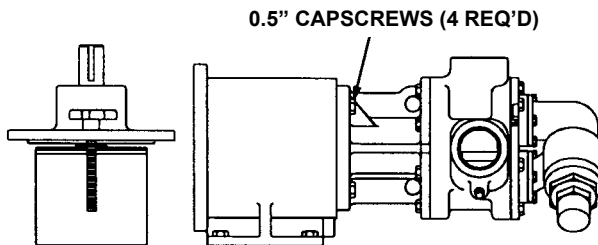

FIGURE 9
3. Support pump with hoist and remove the (4) .5" cap screws. See Figure 9. Pull the pump out of the bracket; there will be some resistance to pull apart since the inner magnet assembly will be attracted to the coupling bracket. If further disassembly of the bearing carrier is required, refer to page 7. Since there will be some liquid left in the canister, be aware that liquid will run out when the canister separates from the pump. Remove canister if it has not already come off the pump.